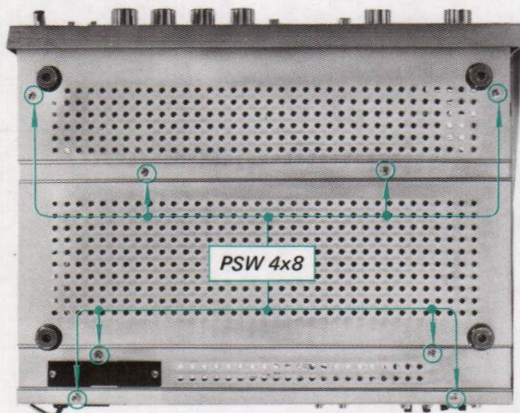

Fig. 2-2. Bottom plate removal
1. Remove the eight screws shown in Fig. 2-2.